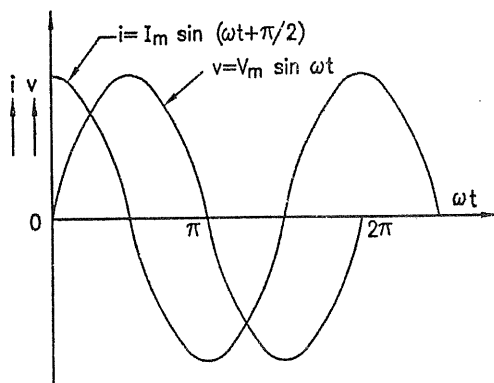

FIG. 2.38 : WAVEFORMS OF v AND i
- Graphical and phasor representation of the these quantities are shown in Fig. 2.38 and 2.39 respectively.